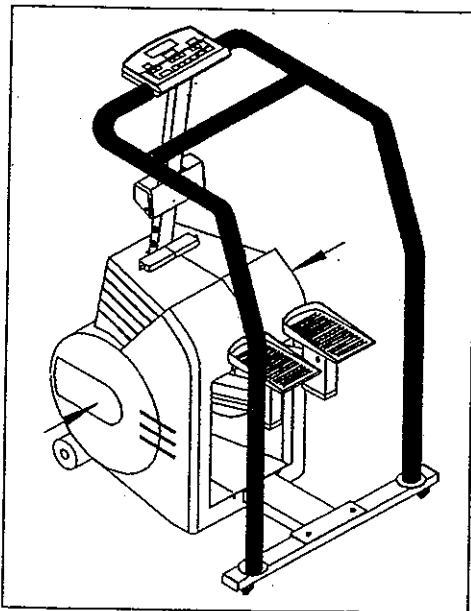

Fig. 20
6. Replace the main shroud and secure with screws (see Fig. 20 & 21).